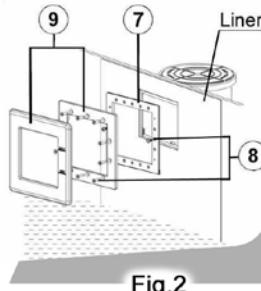

Fig.2
Before installing the Skimmer in the swimming pool, site the pool such that the stamp marking the Skimmer position faces the prevailing winds (see Fig. 2) so that the winds help convey the dirt remaining on the pool surface toward the Skimmer mouth.
4.1.1. PRE-ANCHORING THE RETURN NOZZLE OF THE BACKPACK SKIMMER (Fig.2)
Insert the friction ring and one of the joints (Fig. 2) in the return nozzle. From inside the pool, insert the return nozzle with the friction ring and the joint through the cut. The pieces of liner that stick out through the outer part of the pool **should be cut cleanly and neatly**.
From outside the pool, insert the other joint (Fig. 2) in the threaded part of the return nozzle that sticks out.
Screw the return nozzle well into the backpack Skimmer body using the spanner (No. 13 Fig. 2)